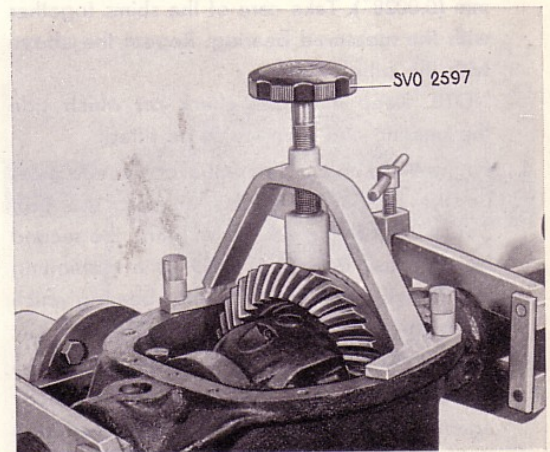
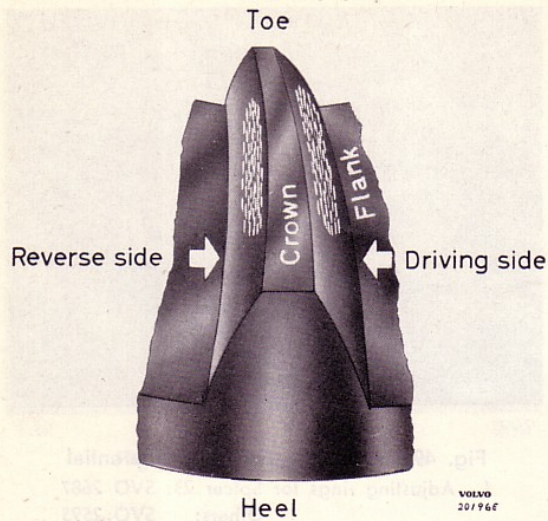
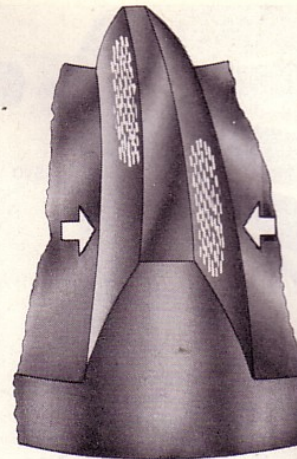

Fig. 50. Brake tool for differential
Fig. 51. Correct tooth contact
Fig. 52. Faulty tooth contact
2. Fit on the brake tool SVO 2597 as shown in Fig. 50. Coat several teeth with marking blue at three points on the crown wheel. By this means a check can be kept on possible crown wheel warp. Pull round the pinion 10—12 turns in both directions and check the tooth pattern. When the tooth contact is correct, the contact pattern should be vertically in the middle of the tooth but somewhat nearer to the toe than to the heel. The contact pattern on the reverse side and driving side should lie opposite each other, see Fig. 51. If the contact pattern is incorrect, the location of the pinion must be adjusted before assembling continues. If the contact pattern lies too far towards the heel on the driving side and too far towards the toe on the reverse side, see Fig. 52, the pinion should be moved inwards. If the contact pattern lies too far towards the toe on the driving side and too far towards the heel on the reverse